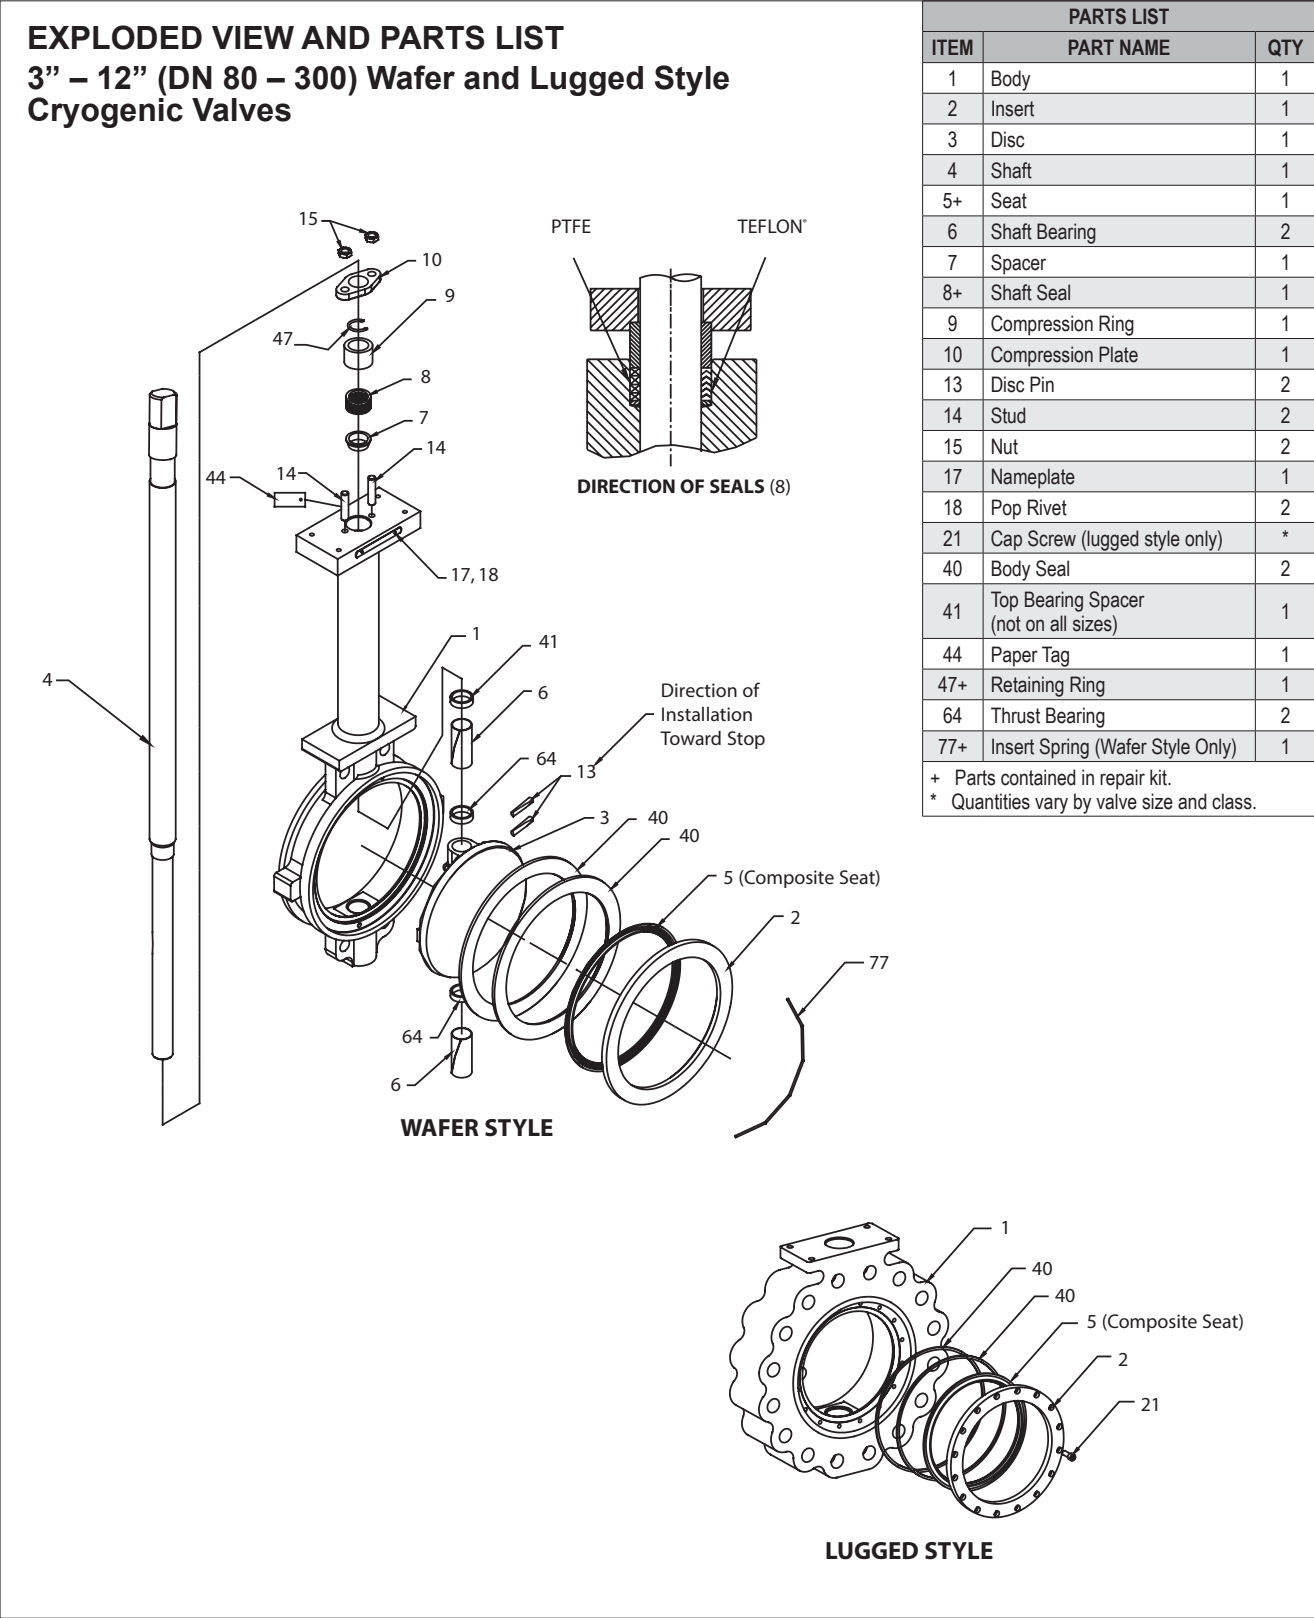

Figure 14.
- c. From Figure 14, the ballooned part number, part name and quantity required